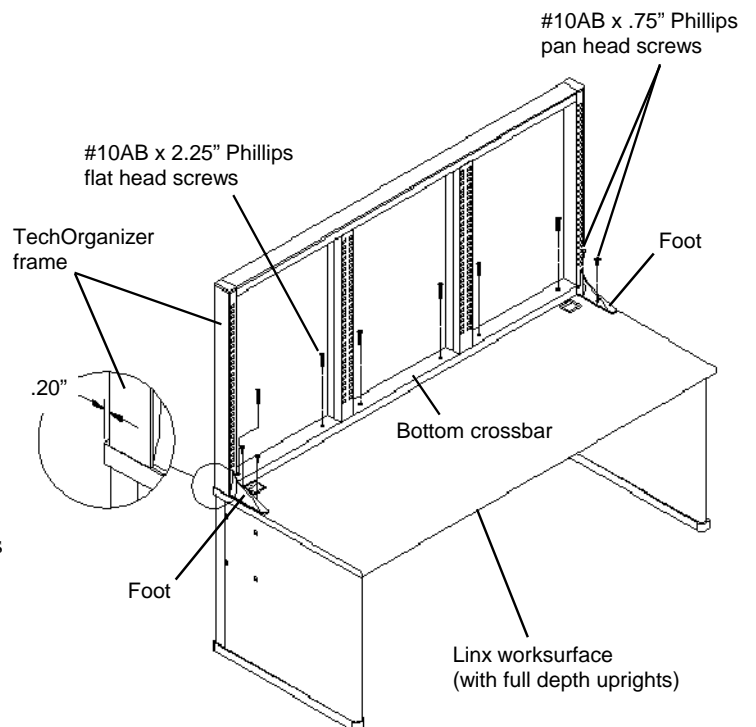

Figure 1.
1. Position the TechOrganizer in the desired location on the back of the Worksurface. On a Linx Worksurface, locate the back of the frame .20" from the back edge of the Worksurface. See **Figure 1**.
2. Using the holes in the frame bottom crossbar and the holes in the feet as a template, locate and drill the appropriate quantity of .113 dia. holes .50" deep in the Worksurface. See **Figure 1**.
3. Attach the frame bottom crossbar to the worksurface using the #10AB x 2.25" Phillips head flat head screws (provided). See **Figure 1**.
4. Attach the feet to the Worksurface using the four #10AB x .75" Phillips pan head screws (provided). See **Figure 1**.